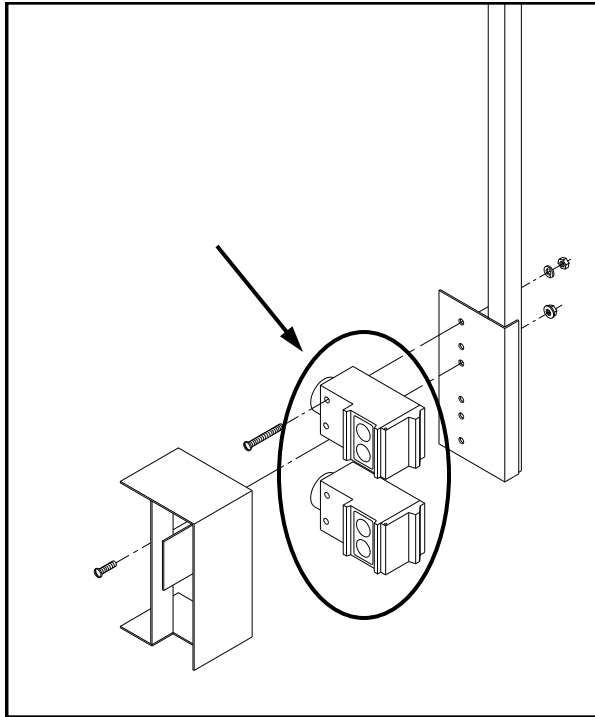
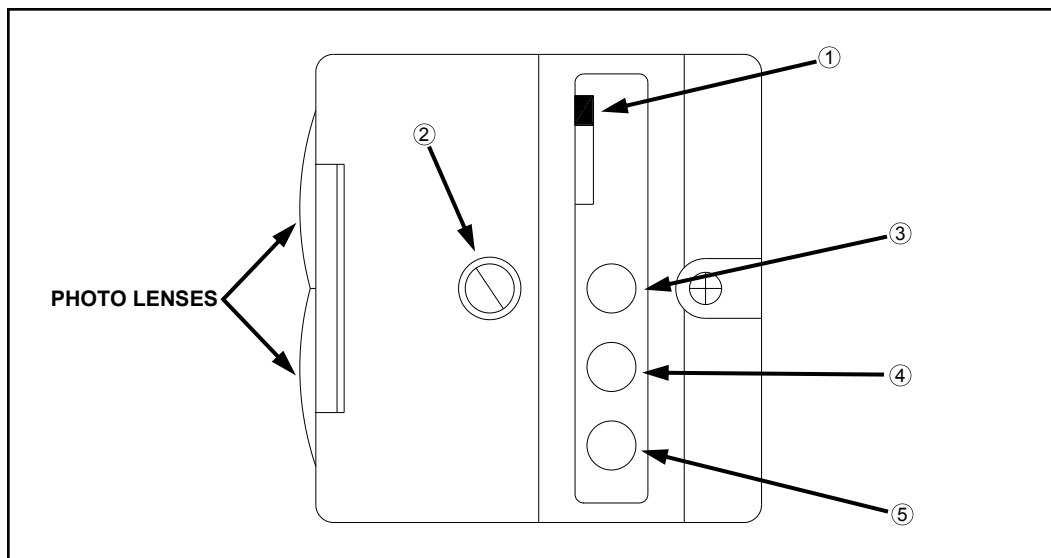

FIG 5.39
FIG 5.40
The upper and lower LS photolights (fig. 5.39) have L.E.D. lights (fig. 5.40) that indicate their operational status.
LT/DK SWITCH – Light/Dark switch on photolight (fig. 5.40, item 1) changes the activated condition of green L.E.D. (see below) from *ON* (“LT”) to *OFF* (“DK”). Switch does not affect the functional operation of the light, only how it is displayed. Switch should be set to “LT”.
SENSITIVITY ADJUSTMENT SCREW – Sensitivity adjustment screw (fig. 5.40, item 2) should always be set to maximum.
YELLOW L.E.D. – Yellow L.E.D. (fig. 5.40, item 3) indicates power on.
GREEN L.E.D. – Green L.E.D. (fig. 5.40, item 4) indicates output energized (sending a signal to Tassel-tron[®] box, opening the raise or lower stack valve).
RED L.E.D. – Red L.E.D. (fig. 5.40, item 5) indicates photolight is receiving reflected signal.